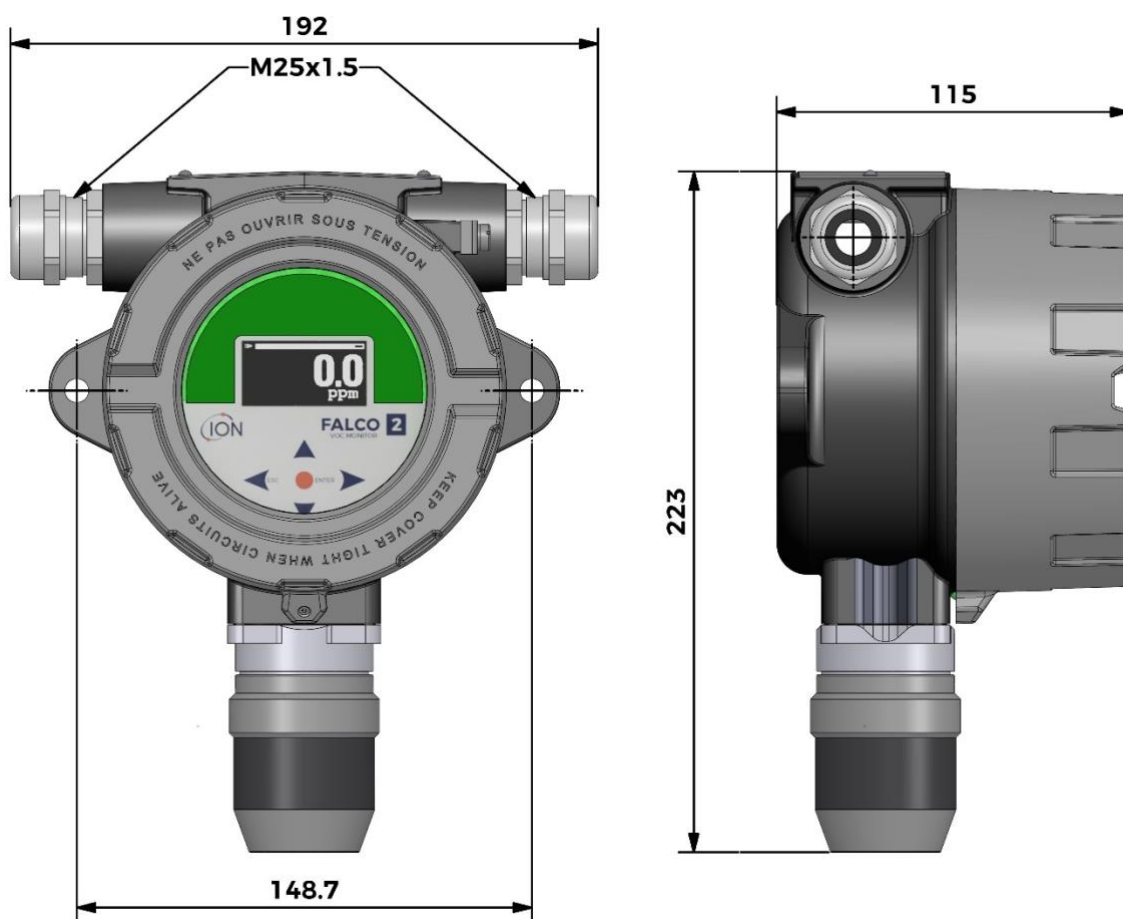

Figure 1 - Dimensional drawing of the FALCO 2 11.7, showing front and side views with key measurements and mounting details
- To ensure secure installation, use two M8 screws to mount the FALCO 2 11.7 (including both the main unit and sensor housing) onto a solid and stable support. Refer to Figure 1 for the device's dimensions and mounting details.